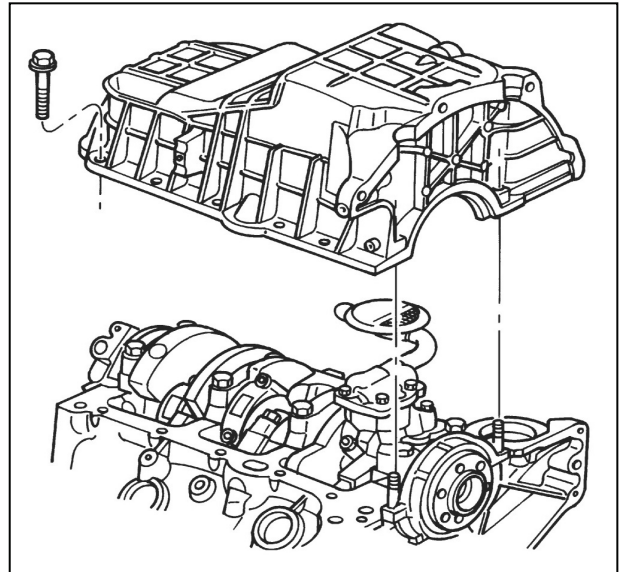

Figure 12-83 Installing Oil Pan to Engine Block
3. Oil pan to cylinder block (figure 12-83).